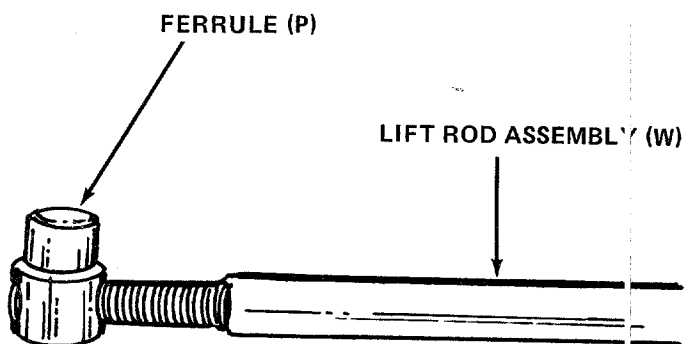

FIGURE 12
20. Thread adjustment ferrule (P) on other end of lift rod assembly a few turns. See figure 12.